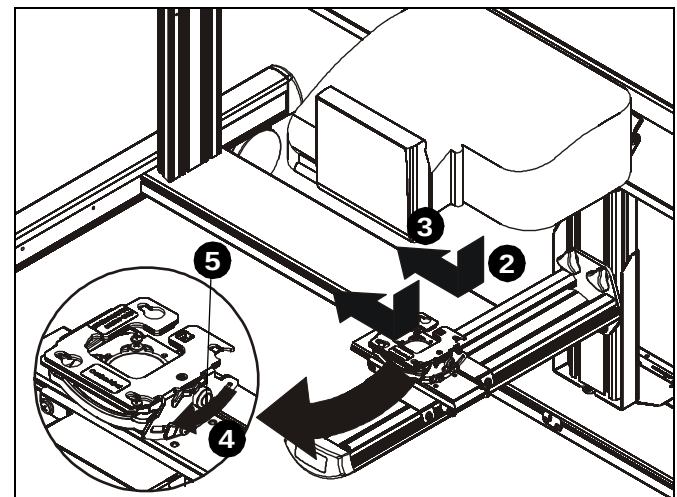

Figure 10
2. Lower projector and attached SSMU interface onto RSM plate on projector boom arm. (See Figure 10)
3. Slide projector with SSMU onto mounting slots in RSM plate until mounting buttons are seated against the back of mounting slots. (See Figure 10)
4. Move locking lever on RSM to "locked" position. (See Figure 10)